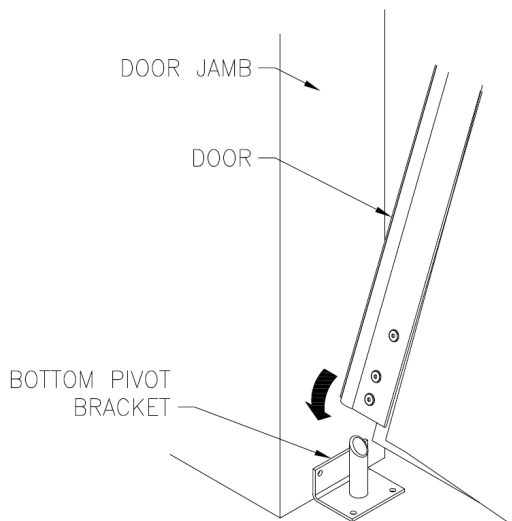

FIG. 5
- a. Lift door panel into place (Fig. 5).